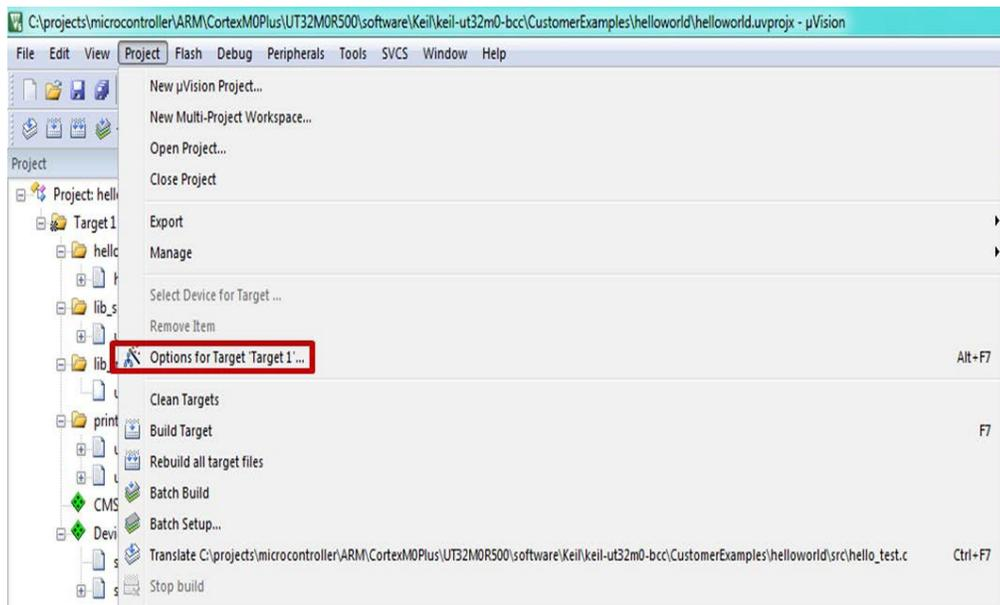

Figure 1: Project Setup
2. From the Project menu, select Options for Target 'Target 1'... (Figure 1).